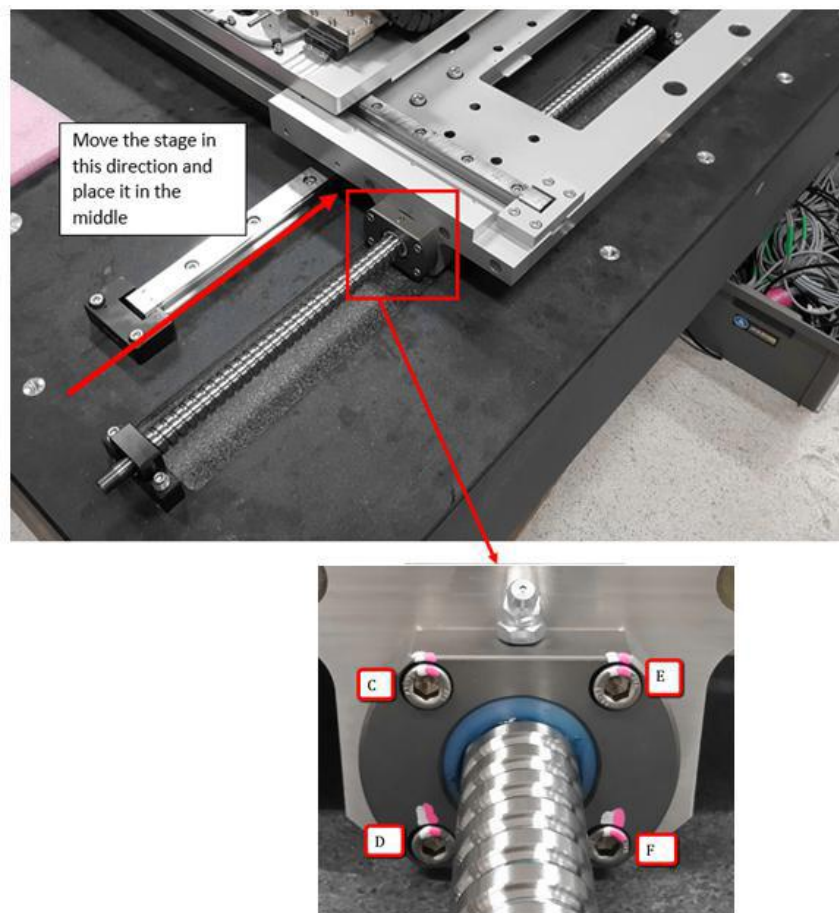

Figure 7 Y-Axis Round Bearing
- Push the stage to the middle as shown in the Figure 7. Tighten the screw "C" to "F".